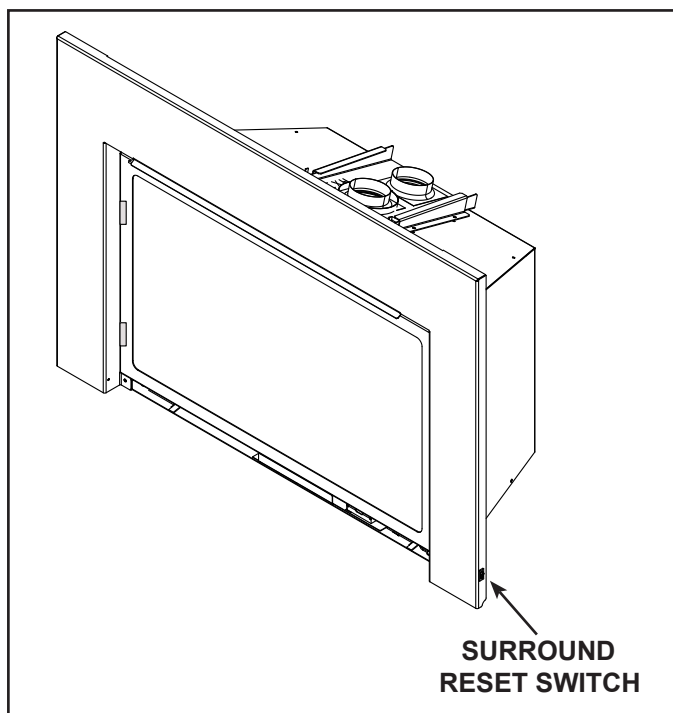

Figure 3.10 Surround Reset Switch
- Toggle the appliance reset switch to the off position . See Figure 3.10 for reset switch location.